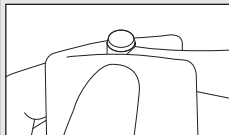
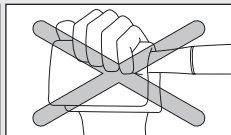

Fig. 14
Fig. 15
- If you wish to purge excessive oil from inside the handpiece, rotate the handpiece for approx 15 seconds without a bur. During the rotation, do not depress the push button, especially when using absorbent cloth to prevent oil from scattering. Depressing the push button during rotation may damage the chuck mechanism (Fig.14, Fig.15).